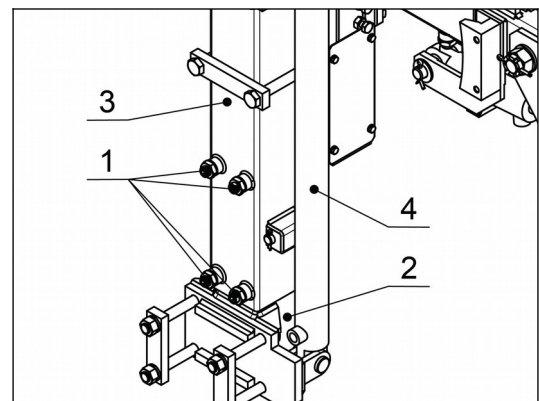

Fig. 63
1. Secure the post (Fig. 63, No. 3) against movement.
2. Loose the bolts nuts (Fig. 63, No. 1)
4. Reinsert the bolts (Fig. 63, No. 1) and adjust the sliders clearance as described in section 11.6.2.
5. Tight the bolts nuts (Fig. 63, No. 1).